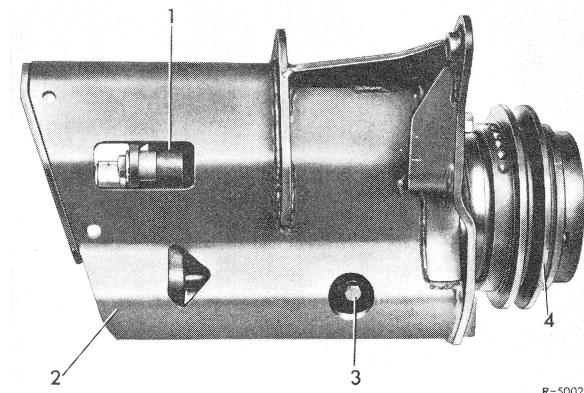

Figure 3 Refrigerant compressor with electro-magnetic clutch and mounting bracket
- 6** Open oil check plug (3) in compressor housing and permit air to flow out until refrigerant vapors are coming out (Fig. 3).
- 10** Close upper valve (13) on filling cylinder and remove hose line from pressure test plate.
- 12** Remove pressure test plate (3) again, immediately prior to installing pipeline.